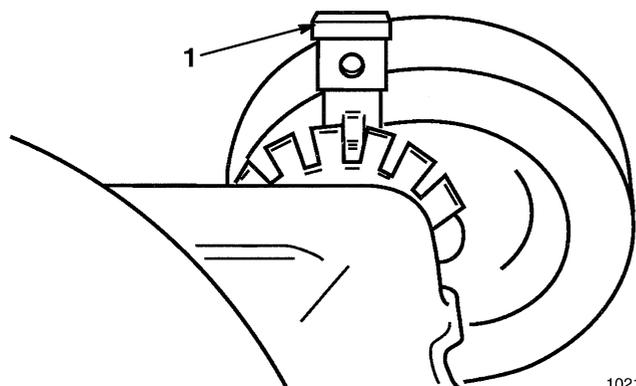

Figure 12
1. To change cutting height pull adjusting lever toward wheel and move to the desired position (Fig. 12).